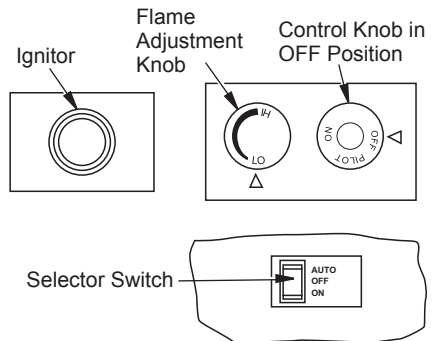

Figure 57 - Control Knob, Ignitor Button and AUTO/OFF/ON Switch
4. Press in and turn control knob clockwise  to the OFF position (see Figure 57).
- Wait five (5) minutes to clear out any gas. Then smell for gas, including near the floor. If you smell gas, STOP! Follow "B" in the safety information, column 1. If you don't smell gas, go to the next step.
- Press in and turn control knob counterclockwise ↶ to the PILOT position. Press in control knob for five (5) seconds (see Figure 57, page 27).